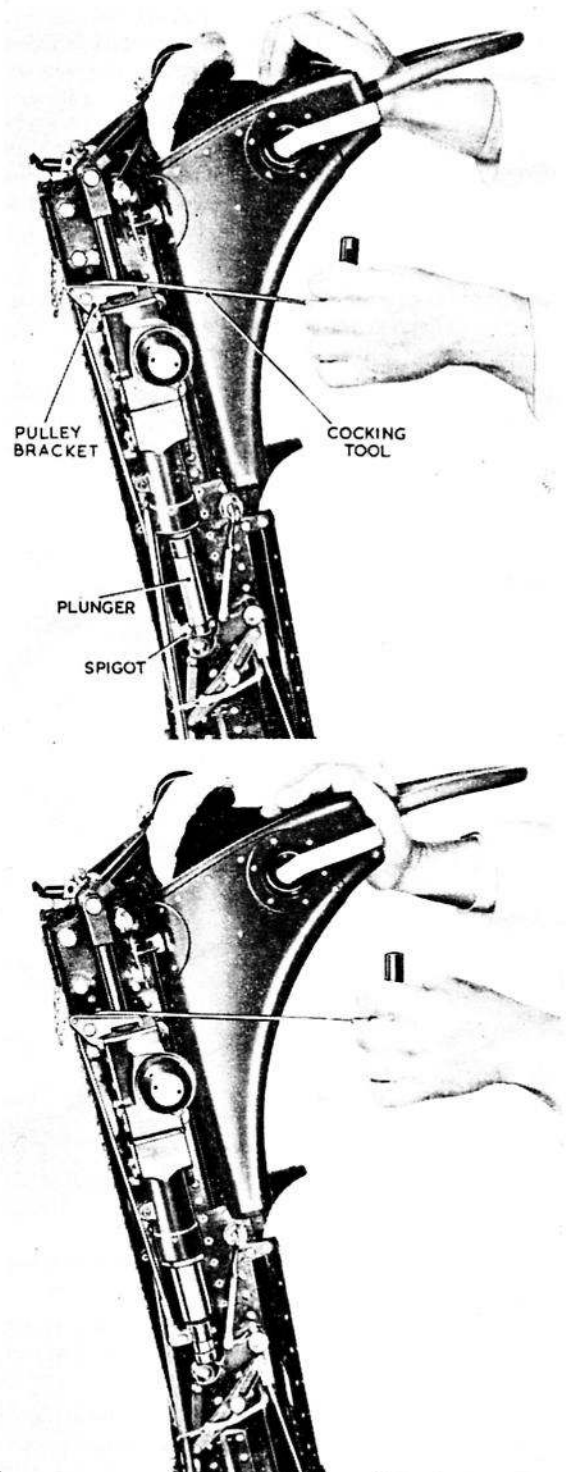

Fig. 10. Cocking barostatic time-release unit
- (2) Close the scissor shackle over the drogue shackle and slide the release plunger inwards until it rests against the outer leg of the scissor shackle.
- (3) Insert the spigot of the cocking tool into the hole at the bottom of the rack plunger (fig. 10), rest the bracket on the top of the casing and pull on the cable unit until the plunger engages.
- (4) Insert a $\frac{1}{4}$ in. bolt through the small housing at the top of the starboard side to line up the plunger with the axis of the harness plunger.
- (5) Insert the spigot of the cocking tool into the hole at the bottom of the harness plunger, rest the bracket on the casing and pull on the cable until the gear train ceases to operate and the $\frac{1}{4}$ in. spigot at the top locks the scissor shackle release plunger; remove the temporary bolt.
- (6) Thread the rings at the top of the safety harness shoulder straps over the special D-ring, pull down gently on the sear, insert the D-ring and release the sear. Check that the straps are correctly locked by the plunger.